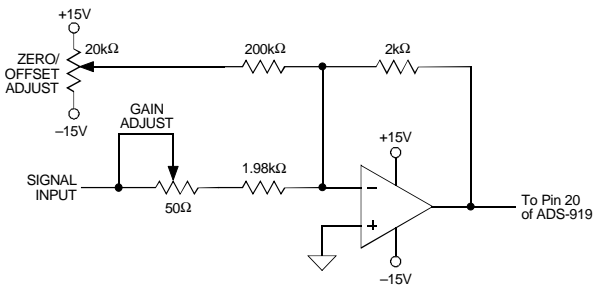

Figure 2. ADS-919 Calibration Circuit
Bypass all power supplies and the REFERENCE OUTPUT (pin 21) to ground with 4.7µF tantalum capacitors in parallel with 0.1µF ceramic capacitors. Locate the bypass capacitors as close to the unit as possible. If the user-installed offset and gain adjusting circuit shown in Figure 2 is used, also locate it as close to the ADS-919 as possible.
- initial offset and gain errors can be reduced to zero using the input circuit of Figure 2. When using this circuit, or any similar offset and gain-calibration hardware, make adjustments following warmup. To avoid interaction, always adjust offset before gain.
(Refer to Figures 2 and 3)
Any offset and/or gain calibration procedures should not be implemented until devices are fully warmed up. To avoid interaction, offset must be adjusted before gain. The ranges of adjustment for the circuit of Figure 2 are guaranteed to compensate for the ADS-919's initial accuracy errors and may not be able to compensate for additional system errors.
All fixed resistors in Figure 2 should be metal-film types, and multitrurn potentiometers should have TCR's of 100ppm/°C or less to minimize drift with temperature.